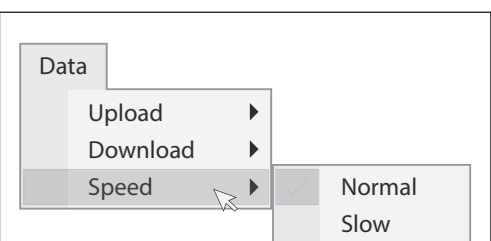

Fig. 140
- Adjust the upload/download speed (normal or slow), **Fig.140**.